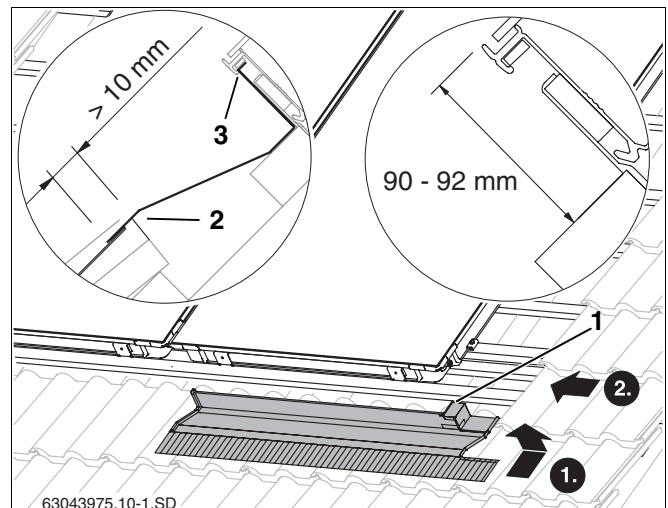
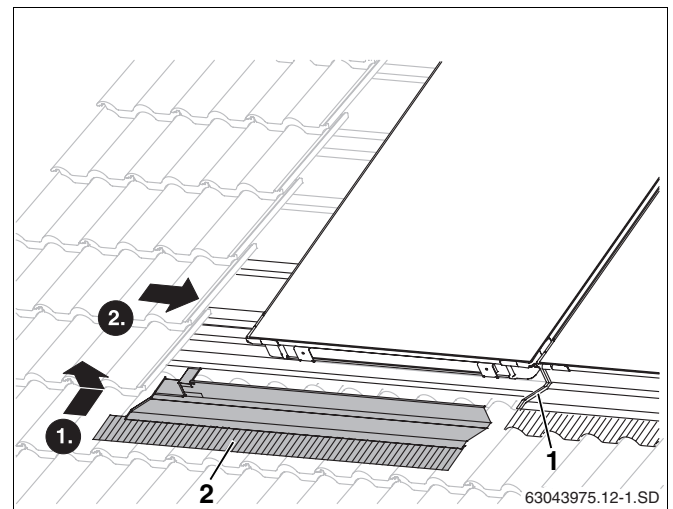

Fig. 42 Lower right facing panel
Fig. 45 Fitting the left-hand lower facing panel
- ▶ Insert upper edge of the right-hand facing panel into the recessed channel on the collector (Fig. 42, **Item 3**).
- ▶ Push facing panel towards the collector so that the short edge on the right (Fig. 42, **Item 1**) grips up into the recessed channel on the collector.
The facing panel must overlap the pan tile by at least 10 mm (Fig. 42, **Item 2**).
- ▶ Lay the left-hand facing panel (Fig. 45, **Item 2**) on the previous one, and fit in the same way as the right-hand one (Fig. 42).
Do not remove protective film from the adhesive on the facing panels (Fig. 45, **Item 1**) until all panels are screwed on.